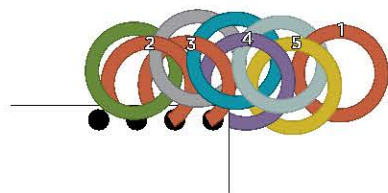

FIG. 8
15. Thread the open jump ring through the base-row (yellow) jump ring at the finishing end of the chain, moving right to left from behind it. Then thread the open jump ring through the adjacent base-row (purple) jump ring, moving left to right from the front. Close the open jump ring (FIG. 8).